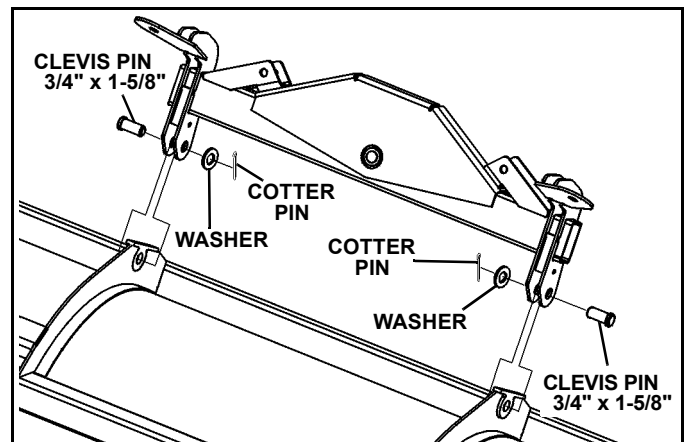

Figure 1-3
4. Place swing frame on blade, positioning the two inside ribs between the swing frame lugs. Insert a 3/4" x 1-5/8" clevis pin from blade parts bag to fasten each side. (See Figure 1-3).